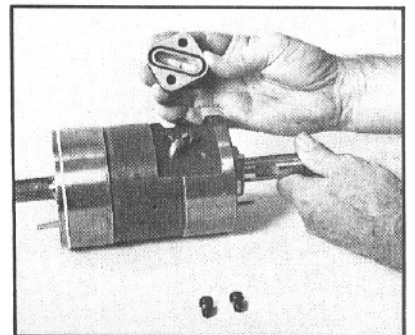

Figure 103
9. If your gear is equipped with the ball return guide cap (48), instead of the clip, grease the ball return guide cap seal (47) and place it in the seal groove of the cap. Assemble the cap so that the seal makes full contact with the rack piston surface (FIG. 103). Install the two allen head bolts (49) and torque them to 13-17 ft. lbs.